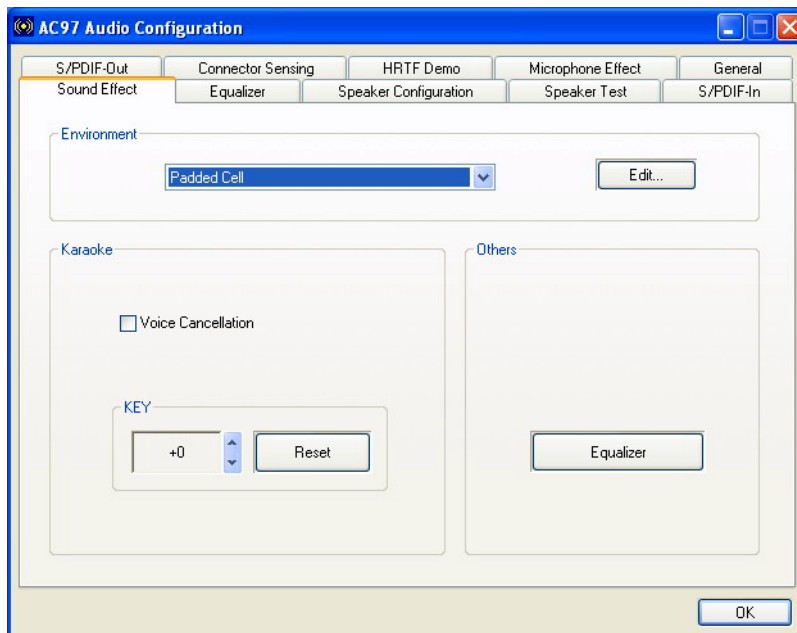

Figure 6-23: Sound Effects Manager (ALC655)
Step 11: The sound effect manager appears. (See **Figure 6-23**)
The Sound Effect Manager shown in **Figure 6-23** is for the RealTek ALC655 audio CODEC. Different CODECs may have different sound manager appearances.
The **Sound Effects Manager** enables configuration of the items listed below. To configure these items click the corresponding menu tab in the **Sound Effects Manager** in **Figure 6-23**.